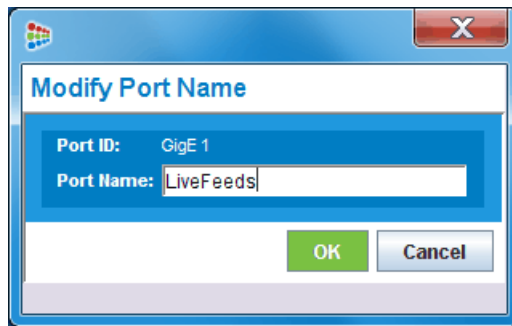

Figure 43. Modifying the Port Name
2. Choose **Modify Port Name**. The **Modify Port Name** menu appears (Figure 43).